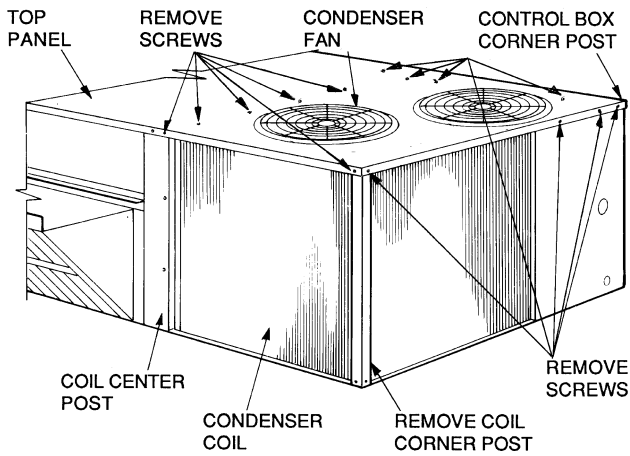
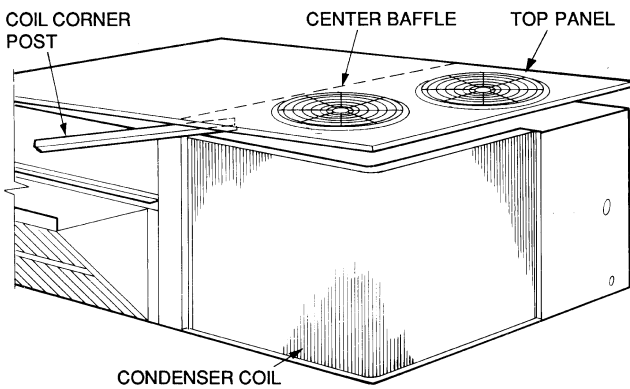

Fig. 45 — Cleaning Condenser Coil
Fig. 46 — Propping Up Top Panel
3. Remove condenser coil corner post. See Fig. 45. To hold top panel open, place coil corner post between top panel and center post. See Fig. 46.